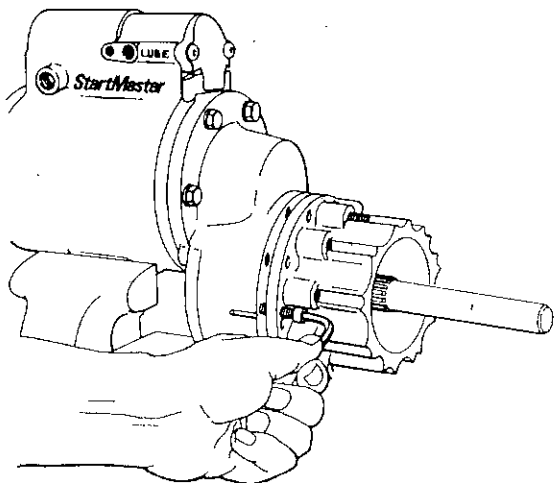

Figure 3.5
9. Remove the drive return spring (30).
10. Remove the facet drive assembly (29).
11. Remove the nine drive housing screws (26) and lockwashers (25).
12. Using two drive housing screws inserted into the threaded jacking holes in the drive housing flange, jack the drive housing from the gear case. See Figure 3.5.